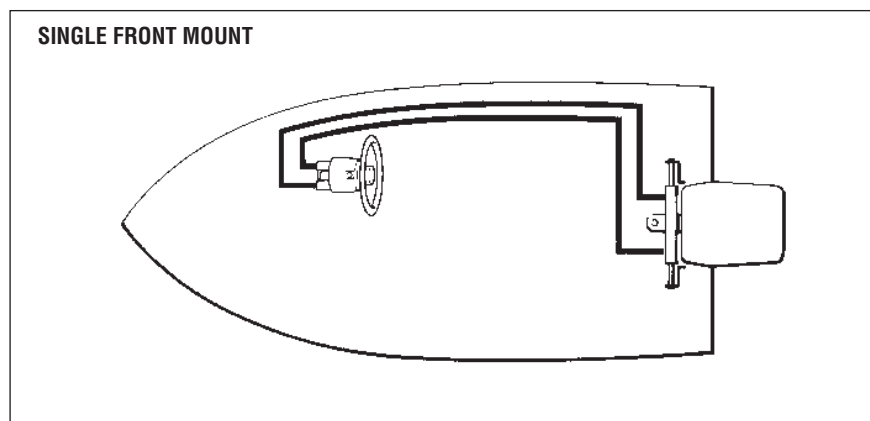

Figure 10.
- See Figure 10 to locate your plumbing diagram.